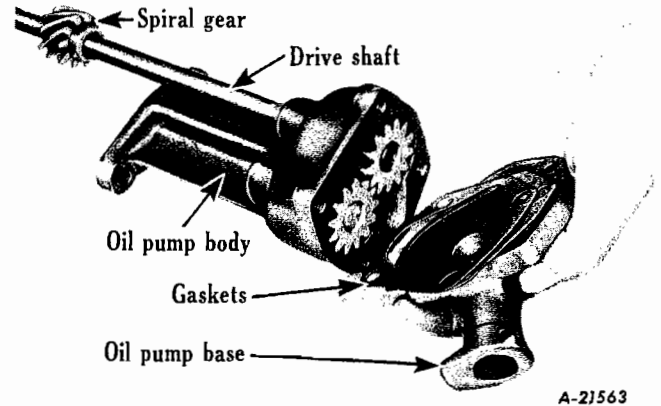

Fig. 45
2. Remove four capscrews and lockwashers from oil pump cover plate. Then lift cover and gasket from oil pump body (Fig. 45).